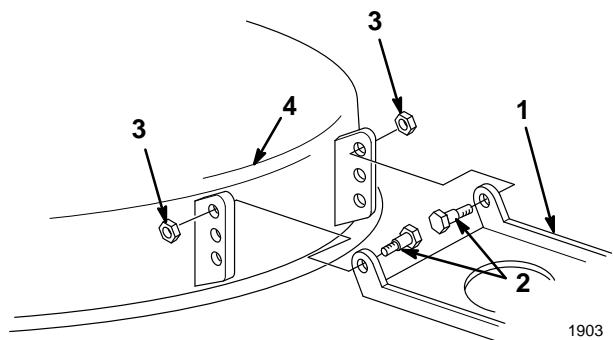

Figure 47
11. If the 0" to 1/4" (0 mm to 6.5 mm) front slope cannot be achieved by rotating the slope adjusting nut, move the mower pivot mount at the mower (Fig. 47).
12. Remove the shoulder bolts and lock nuts from the mower (Fig. 47).
13. Lower the mower pivot one hole and install the shoulder bolts and lock nuts (Fig. 47).